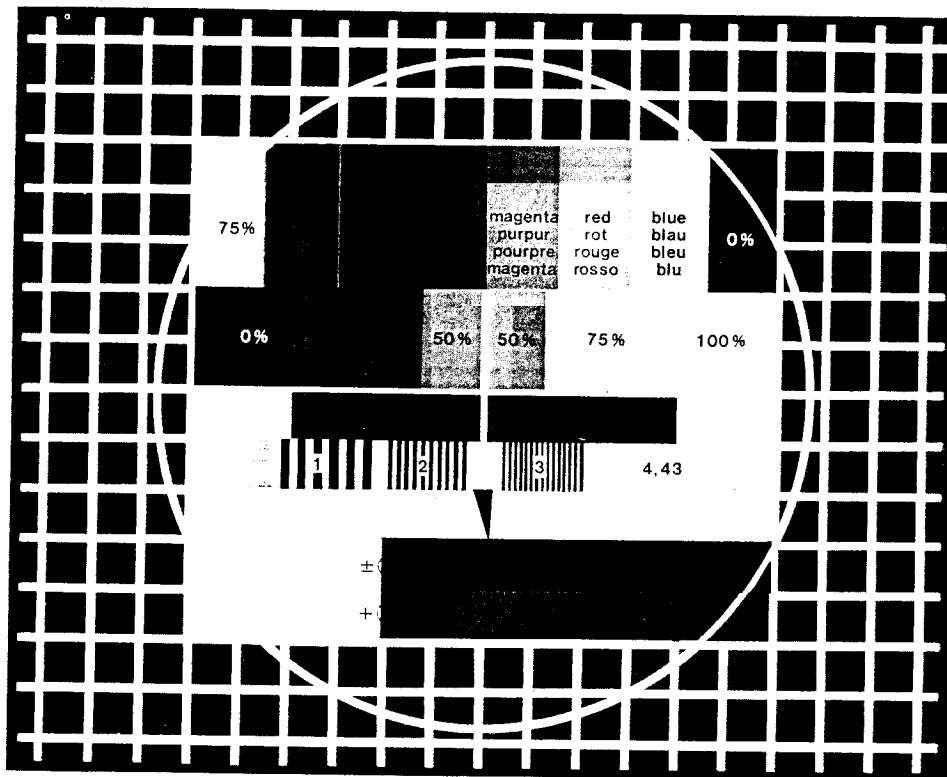

Fig. 9
3.2 Alignment with the electronic test card . . . Fig. 9.